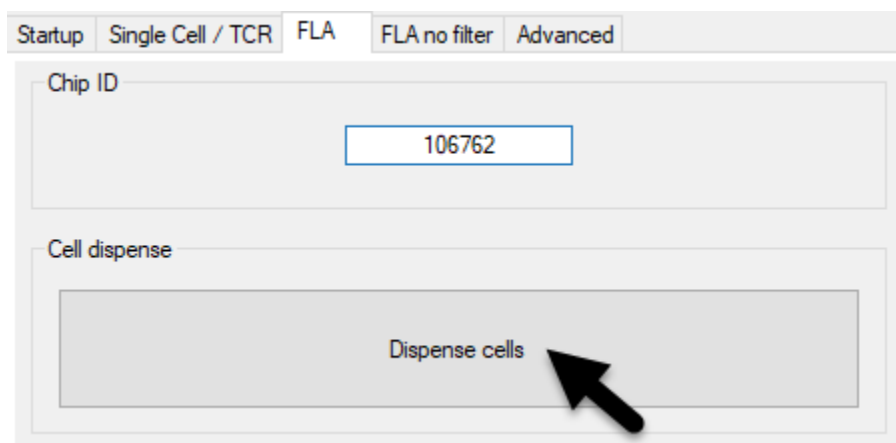

Figure 10. Using the ICELL8 MSND software to dispense cells into the ICELL8 250v Chip.
14. On the ICELL8 MSND Software screen, under the *FLA* tab, click [Dispense cells] (Figure 10, below) then click [OK] after carefully going through all questions prompted. The ICELL8 MSND will start dispensing 35 nl of cell suspension, positive/negative control, or fiducial to the appropriate nanowells.